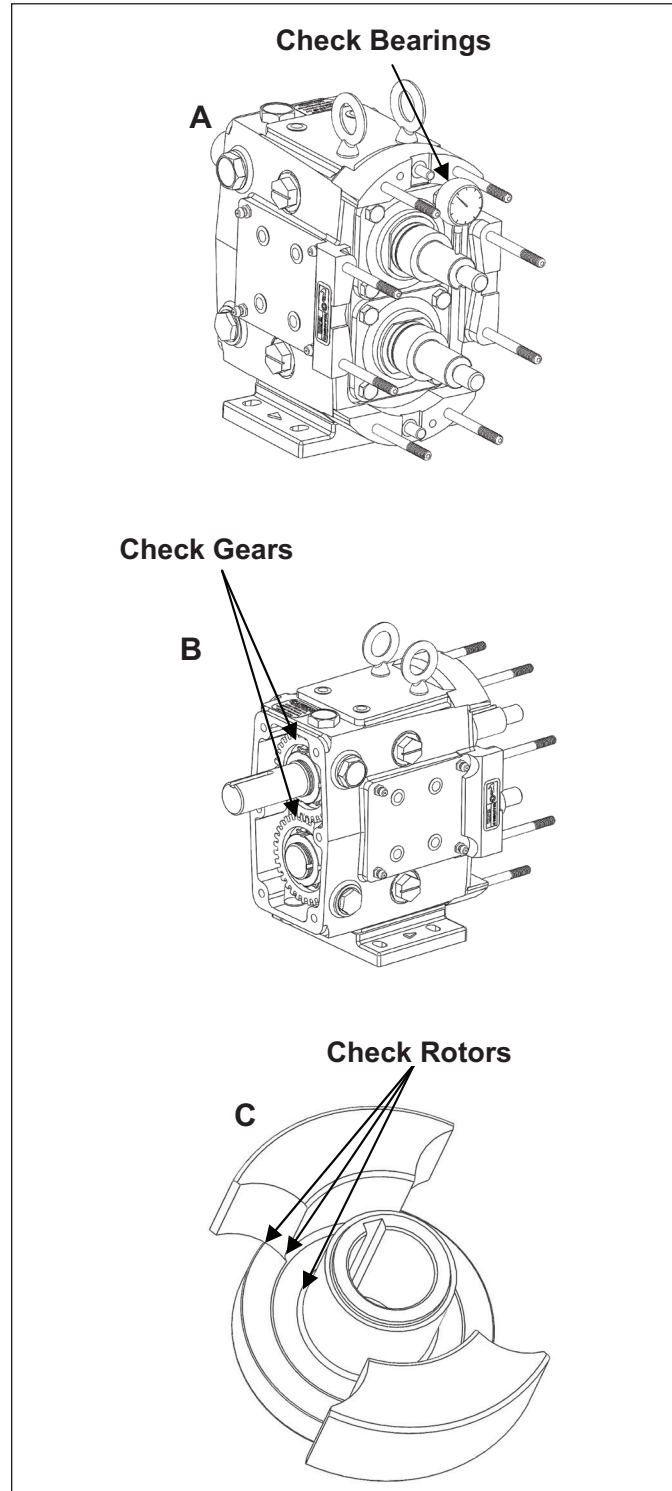

Figure 22. Annual Maintenance Checks
- Check the gear case bearings by measuring the shaft's radial movement with a dial indicator (*Figure 22, A*). If the movement is greater than or equal to the rotor-to-body clearance found on *page 42* (*Table 10*) the bearings should be replaced.
- Remove the gear casing cover (see *page 30* for disassembly information) and inspect the gears for wear and damage (*Figure 22, B*). Also check for backlash and looseness.
- Inspect the rotors for signs of wear and stress cracks around the areas defined in *Figure 22, C*. Replace, if necessary.